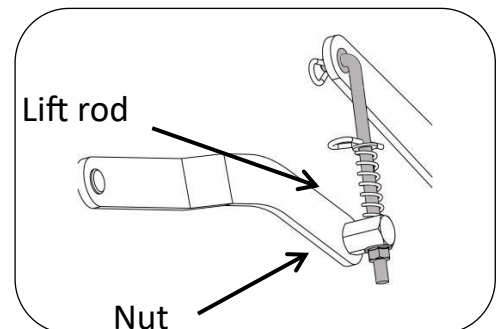

Figure 5.1
2. Place 26 mm blocks under the front edge of the deck and 31 mm blocks under the rear edge. Adjust the locknut (right and left) to keep the deck in contact with the 26 mm blocks. See Figure 5.1